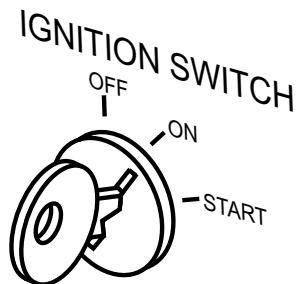

Figure 38. Ignition Key (On)
- Close hood and place ignition key in the ON position. See Figure 38.